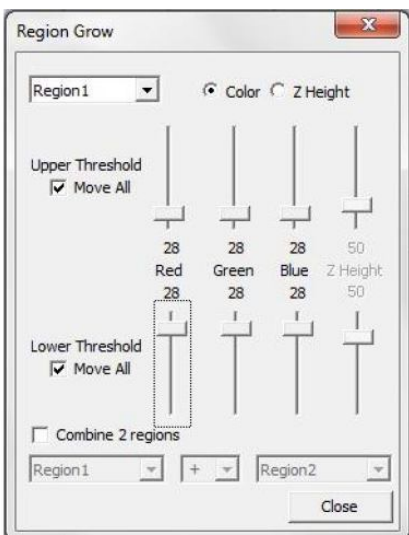

Figure 25. Region Grow dialog box
- With a 2D composite image in a full-screen view, right click to bring up the menu. Select Measure, then select Region in the drawing tools menu. A dialog box titled 'Region Grow' appears, as shown in Fig. 25.